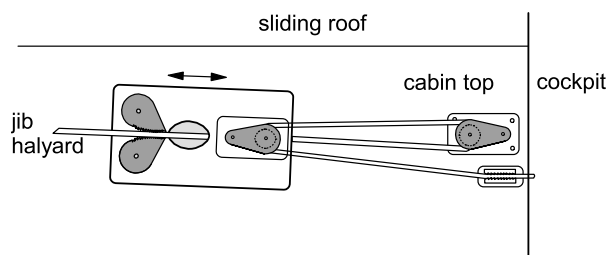

Figure 1: Jib halyard tightening device
- b) provide an additional double purchase at deck level. This makes a total purchase of six times. This has been achieved by a making a loop knot in the jib halyard at deck level, or by a more complicated device (see Figure 1 as fitted to Bumble Chugger)).